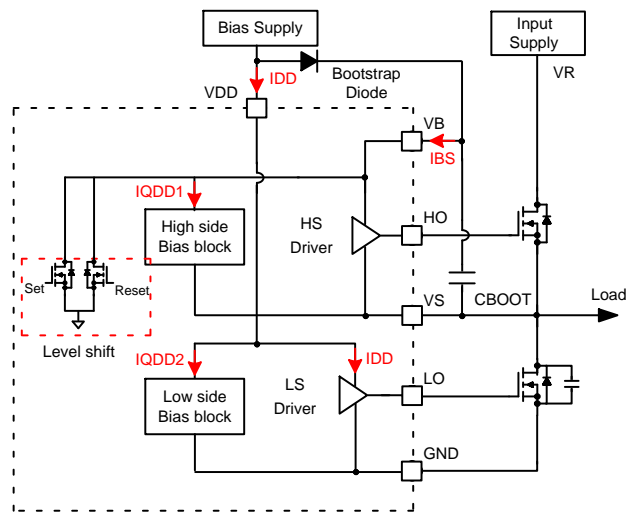

Figure 3. Simplified Circuit Diagram of Driver and Half-bridge Configuration for Dynamic and Power Losses
Let's consider now the predominant loss sources. Figure 3 shows the circuit diagram of driver IC to address dynamic losses. The first dynamic loss is defined as the losses in the level shift (LS) in high side drive, P_{LS} .